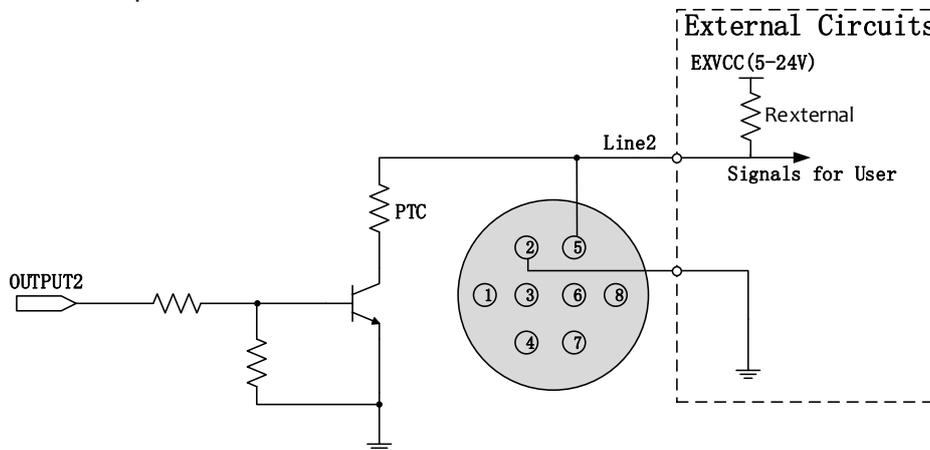

Figure3- 7: Internal equivalent circuit of camera when Line2 is configured as output
- When Line2/3 is configured as output, internal equivalent circuit of camera is shown as Figure3- 7, for Line2 as an example.